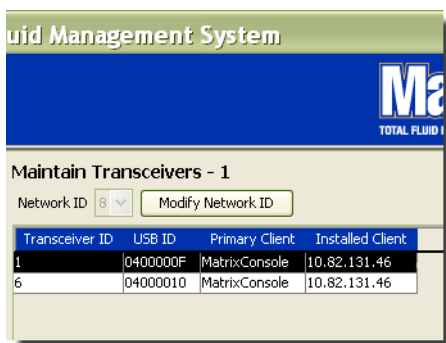

FIG. 108
- The updated Primary Client Profile displays in the Primary Client field as shown in FIG. 108.
5. The Fluid information displays on the Fluids screen as shown in FIG. 108.